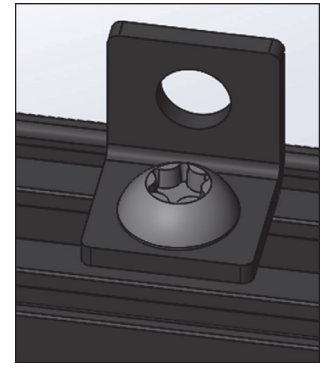

Figure 3: Safety cable bracket
3. See Figure 3. Tighten the supplied Torx bolt into the nut to a torque of 8 Nm so that the safety cable attachment bracket is held securely.